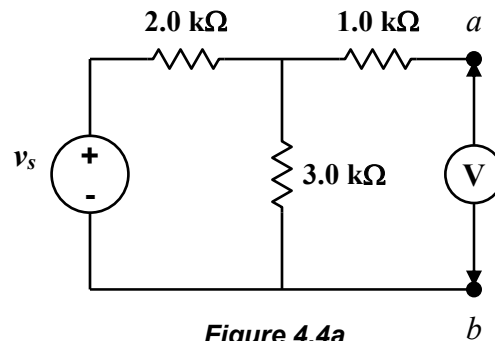

Figure 4.4a
15. Disconnect R_L and measure the voltage across output terminals a and b (**Figure 4.4a**). This is the open-circuit voltage, $v_{oc} = V_{Th}$. Record in the third column of **Table 4-3** as $V_{Th,m}$.